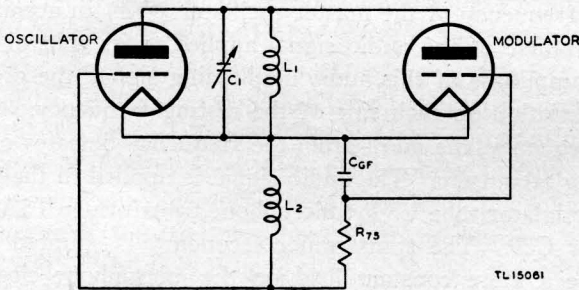

Figure 54. Radio Receiver and Transmitter BC-1000-A, reactance modulator, simplified a-c-schematic.
(1) Figure 54 shows how the first condition is met. The r-f voltage developed across the tuned circuit L1-C1 (the tuned plate circuit of the master oscillator) induces a voltage  $180^\circ$  out of phase in grid coil L2 (the grid feedback coil of the master oscillator). A network consisting of resistor R75 and the interelectrode capacitance  $C_{gf}$  between the grid